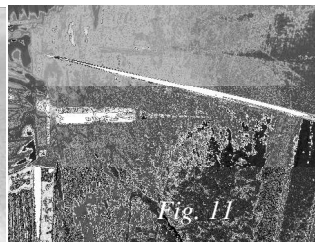
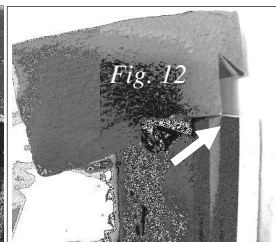

Fig. 11
Fig. 12
2. Face screw the panel (Fig. 11), so the ledger fits flush on top .(Fig. 12) The ledger should hide the heads.